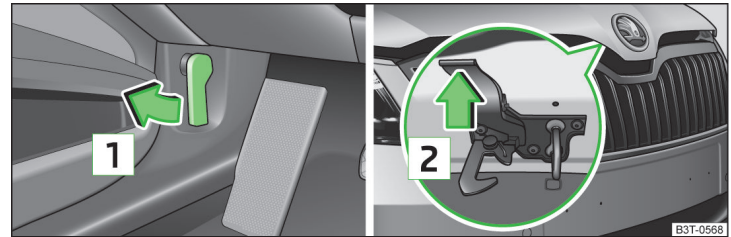

Fig. 160 Bonnet release lever/release lever
- Pull the release lever under the dash panel in the direction of the arrow **1** » Fig. 160.
Never open the bonnet by the locking lever » Fig. 160.